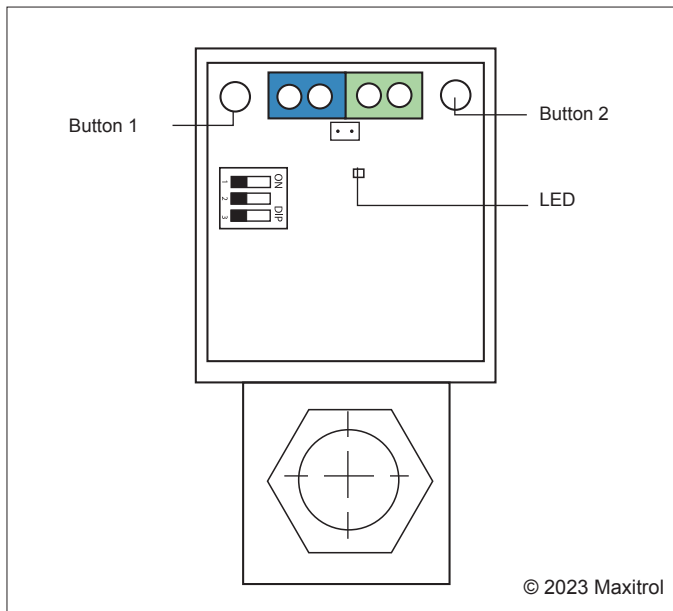

Figure 4: EXA Modulating Valve Series Adjustment Controls
The EXA modulating valve series has two (2) buttons and a communication LED for the user interface. The buttons are used to set the valve for high and low fire settings (see Figure 4).